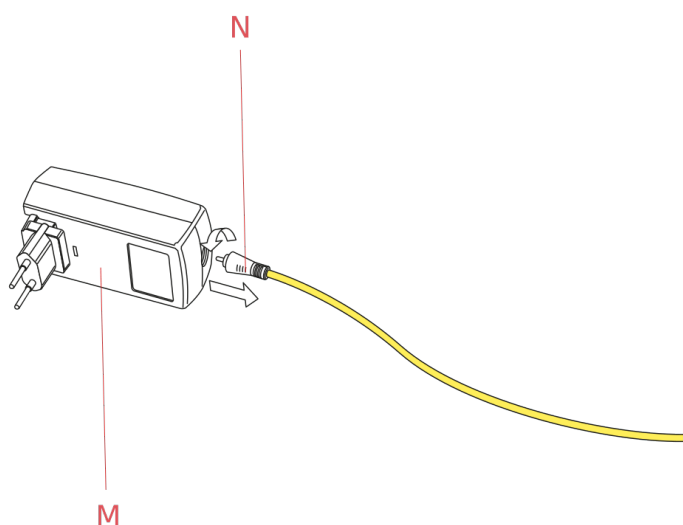

Fig.3
Connect the plug (N) to the power unit locking it in by rotating it 90° clockwise.(Fig.3 page 3)